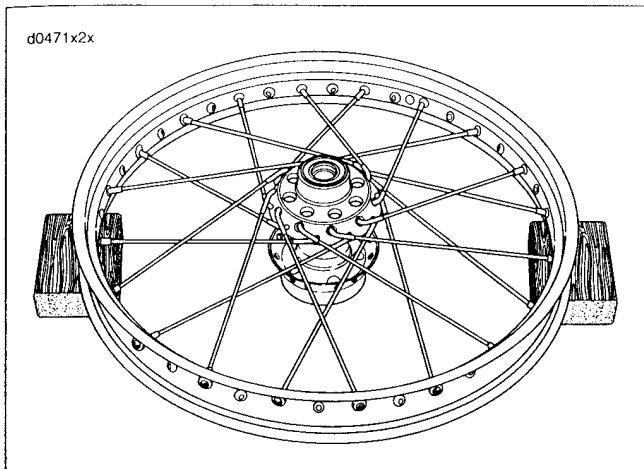

Figure 2-46.
6. See Figure 2-46. Install the remaining nine upper row spokes into every fourth remaining hole above the rim centerline. This completes spoke installation on this side.